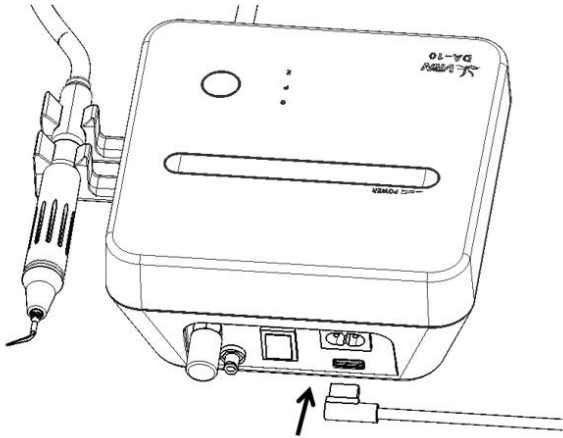

Figure 2.3
- 3) Insert the plug of the wired foot switch into the foot switch socket(See Figure 2.3).